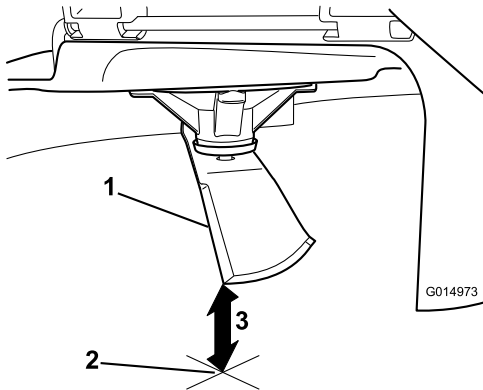

**Figure 61**
3. Measured distance between blade and the surface (A)
4. Rotate the same blade 180 degrees so that the opposing cutting edge is now in the same position (Figure 61).